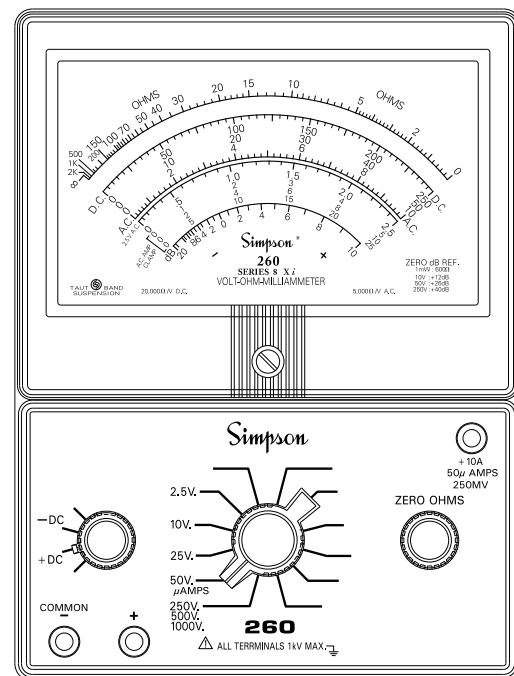

Figure 4-1. Jacks and Switch Positions for Measuring DC Voltages, 0-250V Ranges
- a. Set the function switch at +DC (Figure 4-1).